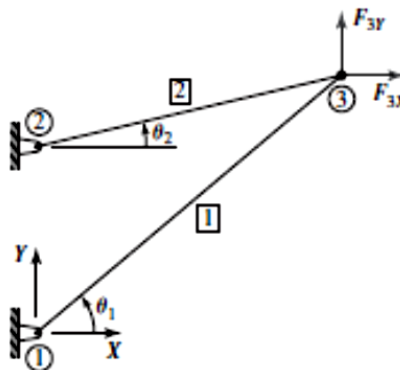

Figure 1
- For the truss shown in Figure 1,  $\theta_1 = \pi/4$ ,  $\theta_2 = 0$  and the element properties are such that  $k_1 = A_1 E_1 / L_1$ ,  $k_2 = A_2 E_2 / L_2$ . Transform the element stiffness matrix of each element into the global reference frame and assemble the global stiffness matrix. [7M]